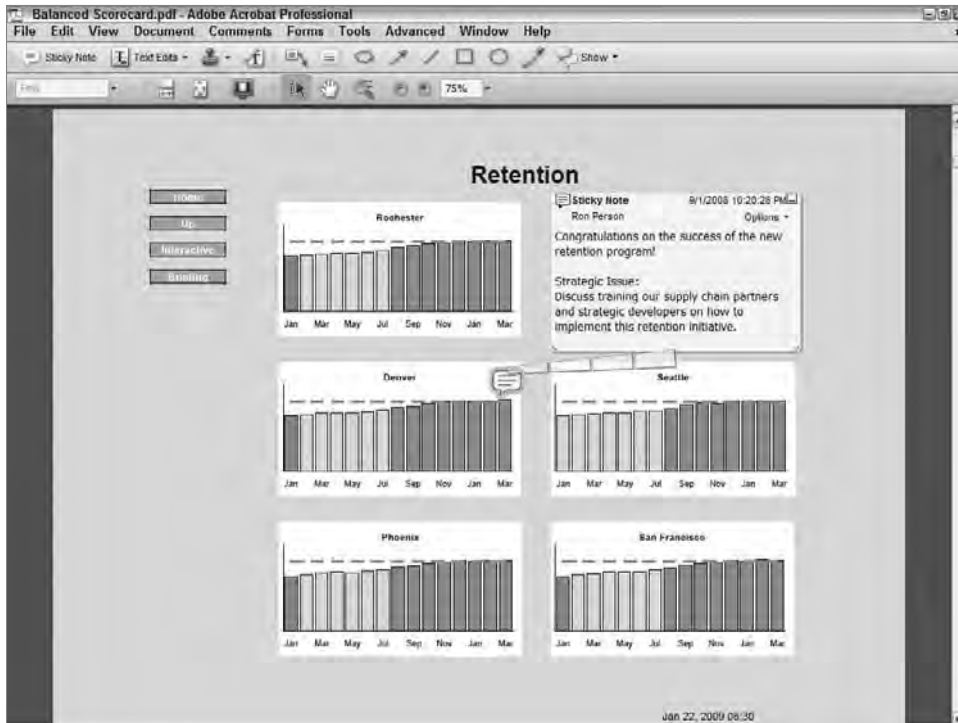

Figure 29.7: Balanced Scorecard readers using the free Adobe Reader can post comments and sticky notes on the PDF for others to read.
- Readers with the free Adobe Reader can add comments and sticky notes that others can see, as shown in Figure 29.7.